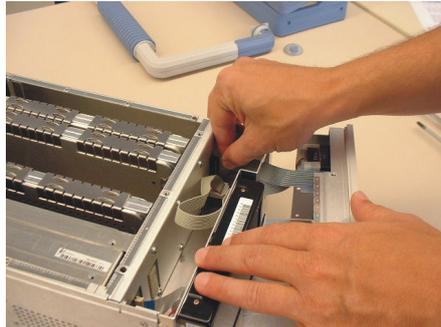
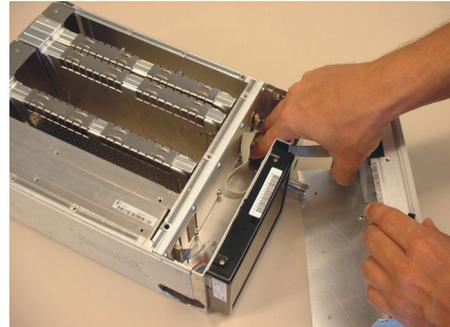

Figure 1-13
Figure 1-14
6. Disconnect keyboard cable (short flat cable). (see Figure 1-13; Figure 1-14).